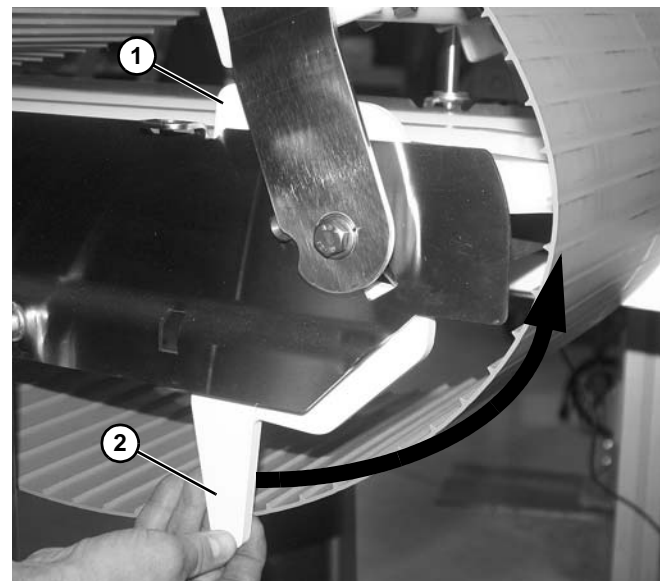

Figure 45
2. Replace with new belt guide. Install and rotate return guide (**Figure 45, item 1**), installing so that handle (**Figure 45, item 2**) is rotated toward the top when installed.